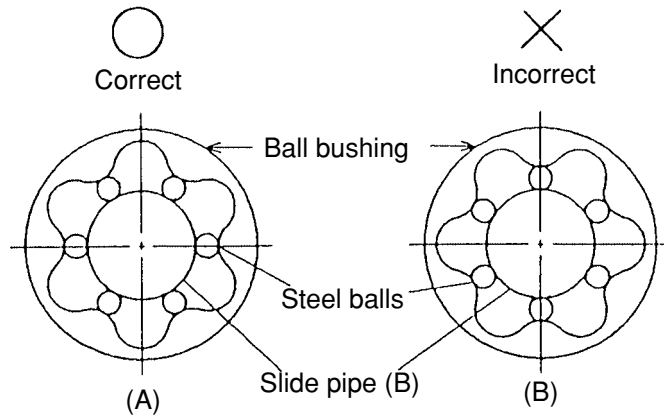

Fig. 74
When reassembling, put the Ball Bushing [65] inside Holder (A) [68] as indicated in (A) of Fig. 74. Visual observation will do for this insertion. Layout in (A) offers about 30 % higher rated load than in (B).